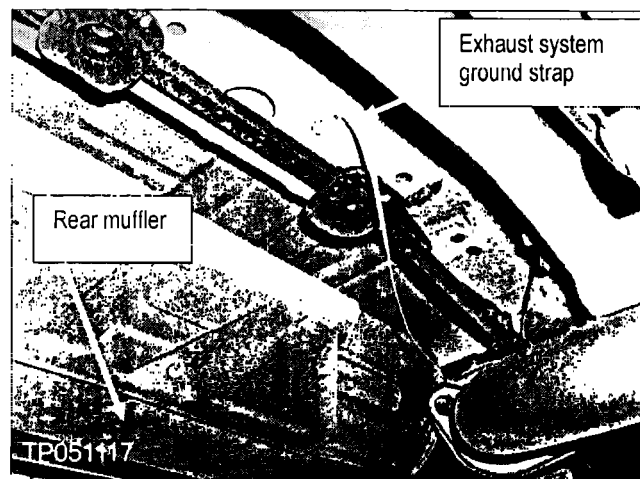

Figure 2
6. Remove the exhaust system ground strap from the vehicle under body (see Figure 2).